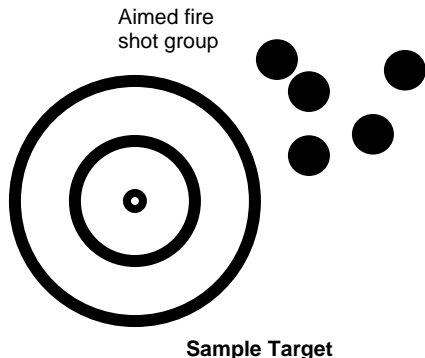

Figure 2-4: Aimed fire shot group
2. Fire three to five aimed individual rounds (Figure 2-4).